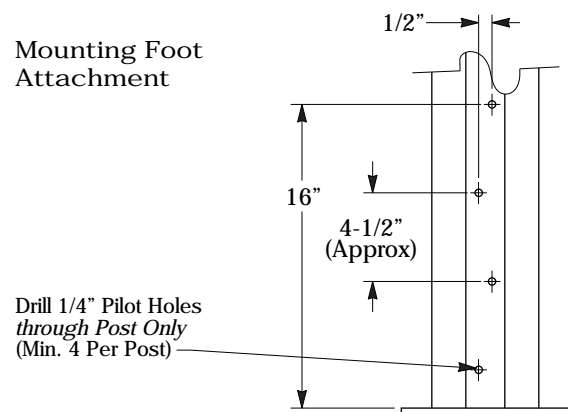

Fig. 6
2. Drill 1/4" diameter clearance holes *through post pocket only*. IMPORTANT: Holes should be approximately 4-1/2" apart vertically and offset 1/2" from one another. (See Fig.6) Recent post extrusions are provided with "index" lines for proper offsetting.